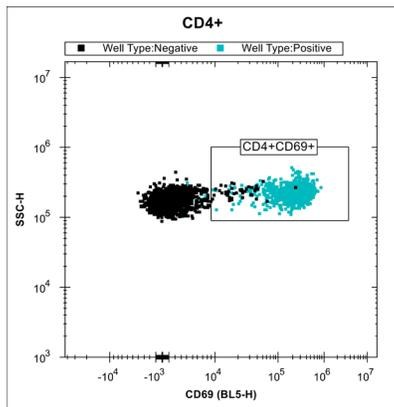

Figure 10. Plot of activated (CD4+ | CD69+ positive) or non-activated (negative) T Cell populations.
- 16.4 Review activated and inactive T cells populations of cells (**Figure 10**)